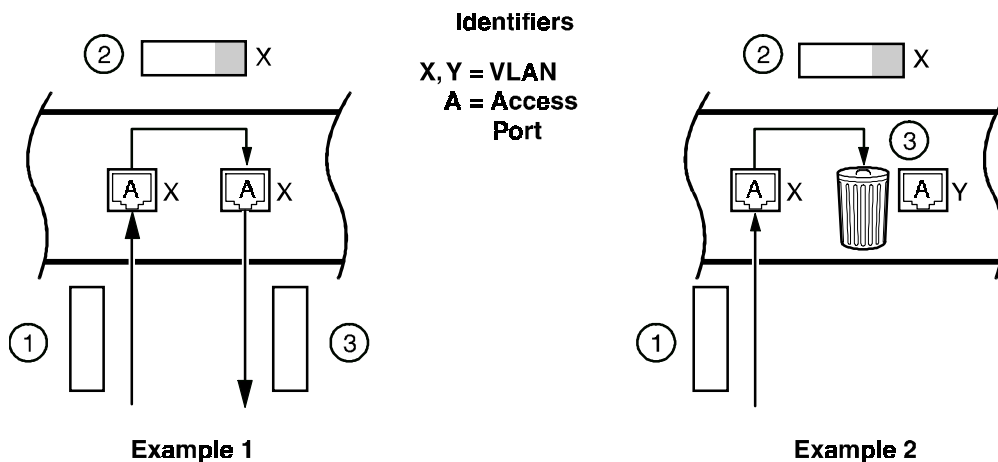
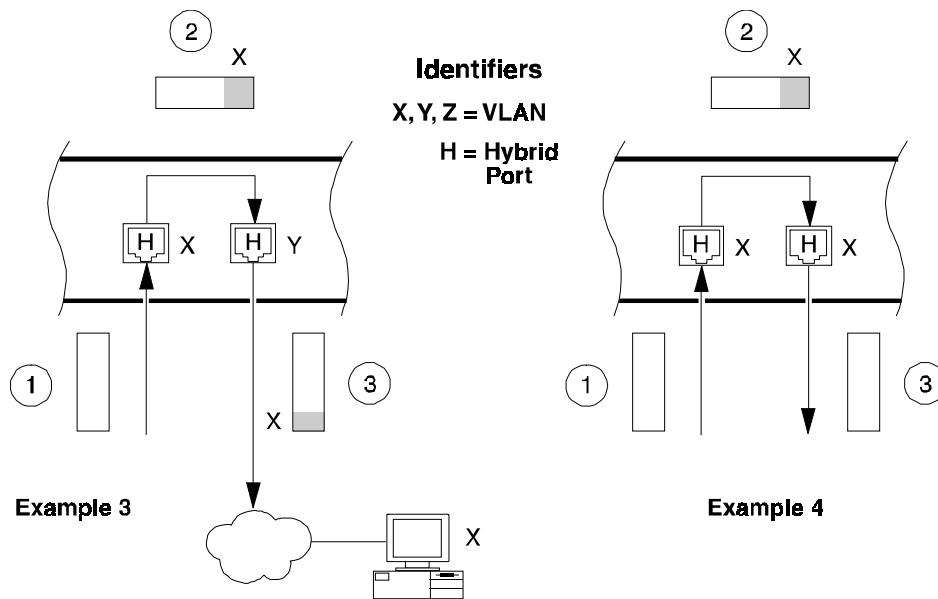

Figure D-2. VLAN Access Ports
Figure D-3B. VLAN Hybrid Ports (Examples 3 and 4)
In Example 1 in Figure D-2, both ports are designated as Access ports. The ports are both configured to be on VLAN X. An untagged frame (1) comes in through the left port and gets tagged with a VLAN X tag (2), based on the incoming port PVID. As the frame exits through the right port, the tag is stripped (3) since the outgoing port is an Access port as well and can only transmit untagged frames. The frame can propagate through the switch in this example only because both ports are on the same VLAN.
In Example 2 in Figure D-2, both ports are also Access ports, however the port on the left is on VLAN X while the port on the right on VLAN Y. The untagged frame (1) comes in through the left port and again gets tagged with a VLAN X tag (2). However, because the outgoing port is on a different VLAN (VLAN Y), the frame is dropped. In general, frames cannot propagate between ports unless both ports belong to the same VLAN.
In Example 3 in Figure D-3B, an untagged frame arrives at the left port (1). The switch tags the frame with the PVID for VLAN X (2). Since the destination MAC address has already been learned as a tagged station on VLAN X on the outgoing port, the frame is sent out with a VLAN X tag.
Example 4 in Figure D-3B is similar to Example 3 except that both ports (incoming and outgoing) have a VLAN X PVID. The untagged frame arrives at the incoming port (1) and gets tagged with a VLAN X tag (2). The tag may or may not be stripped off as the frame exits the switch, depending on how the MAC address of the destination device was learned (3). In this example, the destination was learned as an untagged station so the tag is stripped. This Hybrid port example is thus essentially the same as the Access port case in Figure D-2, Example 1.